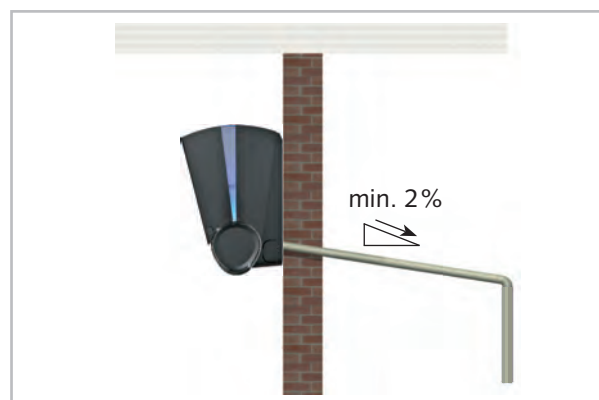

Fig. 38: Condensate drainage connection - Indoor unit
- The condensate drainage line should have an incline of min. 2% (Fig. 38). This is the responsibility of the customer. If necessary, fit vapour-diffusion-proof insulation.